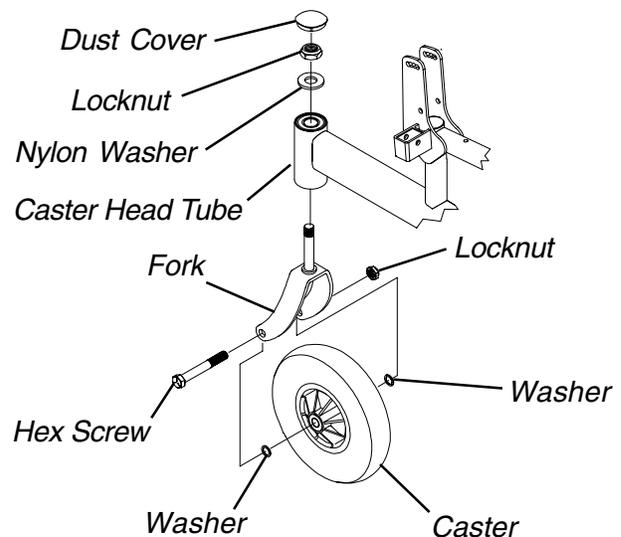

FIGURE 3 - REPLACING FORKS
**REPLACING FORKS (FIGURE 3)**